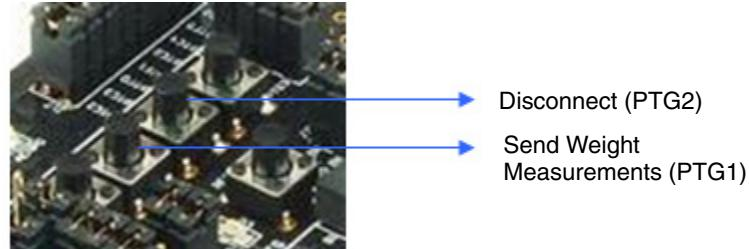

Figure E-8. PHCD push buttons
6. After the host device is in operating state, the push buttons on the device can be used to send weight measurements to the host. Figure E-8 shows the function of these buttons.